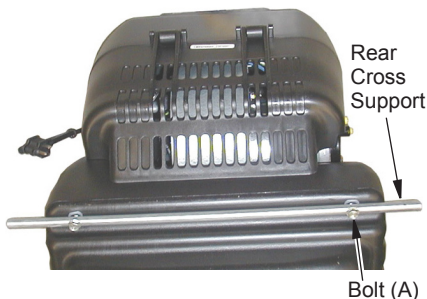

Figure 3 - Attaching Rear Cross Support
2. Attach rear cross support with two bolts (A), see Figure 3.